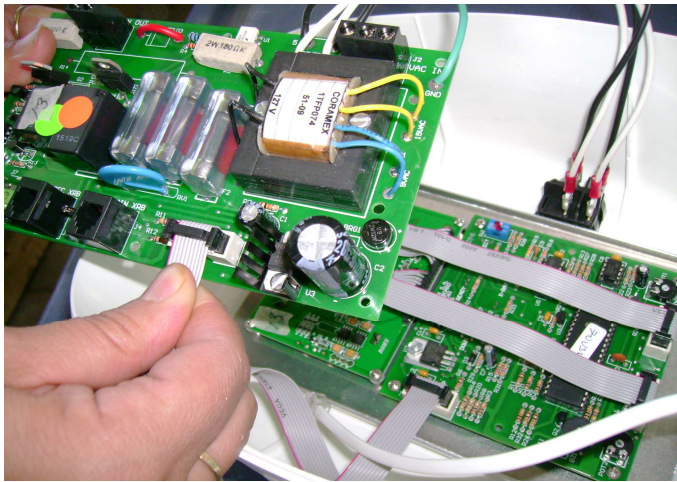

Fig. 1
- c) Check if the flat cable harness which connects the Power Board to the Logic Board is not damaged or if it is correctly connected to the boards (see Fig.1 and 2).